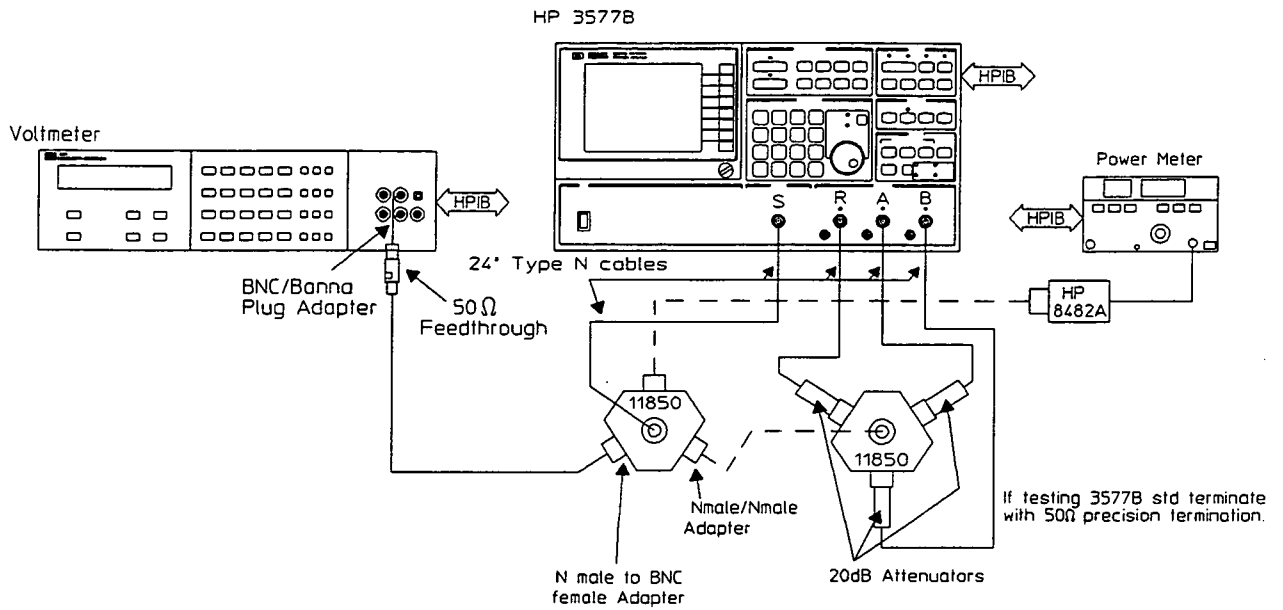

Figure 3-11. Absolute Accuracy and Flatness Test Set-Up (50Ω)
- t. Connect the test equipment as shown in figure 3-11. Also connect via HP-IB the voltmeter, power meter, HP 3577B, and an HP 9000 Series 200 or 300 Computer. The following addresses are used in the program: